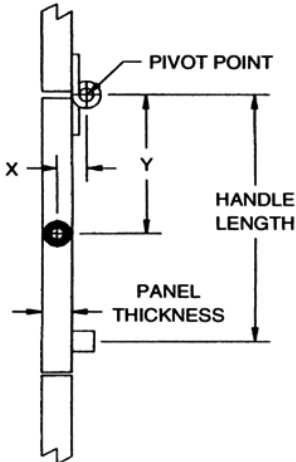

FIGURE 1A
- 1) Length of component from hinge edge (i.e. pivot point) to handle (Fig 1A, 1B, 1C): Handle length: \_\_\_\_\_
- 2) How is the panel mounted (Fig 1A, 1B, 1C)?                      Vertical                      Horizontal                      Offset
- 3) Center of gravity location from center of hinge pivot (Fig 1A, 1B, 1C):                      X= \_\_\_\_\_                      Y= \_\_\_\_\_
- 4) Location of hinge pivot from mounting surface (Fig 1A, 1B, 1C):                      X= \_\_\_\_\_                      Y= \_\_\_\_\_